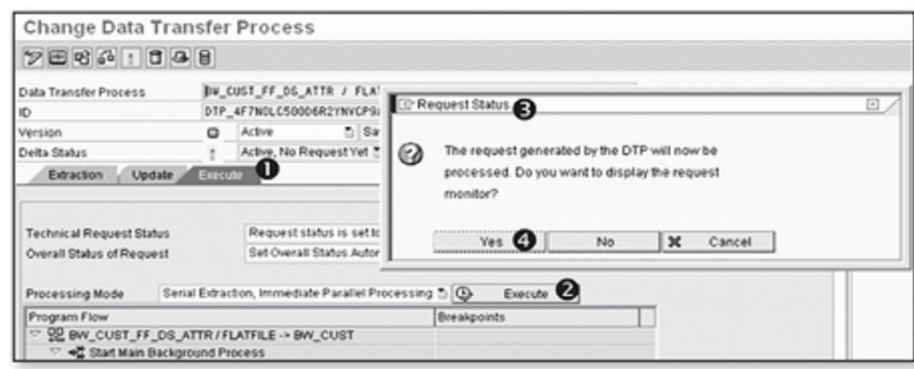

Figure 7.44 Executing DTP
This displays the Change Data Transfer Process screen shown in Figure 7.44. Click the Execute tab (❶) (recall our discussion of this tab from Section 7.2.4, Creating a DTP for Loading Master Data), and click the Execute icon (❷). This results in the Request Status box (❸).